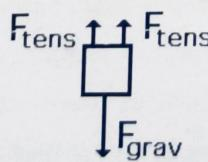

Fig 2.13
1. Which of the following cases does the free body diagram below illustrate for fig 2.13?